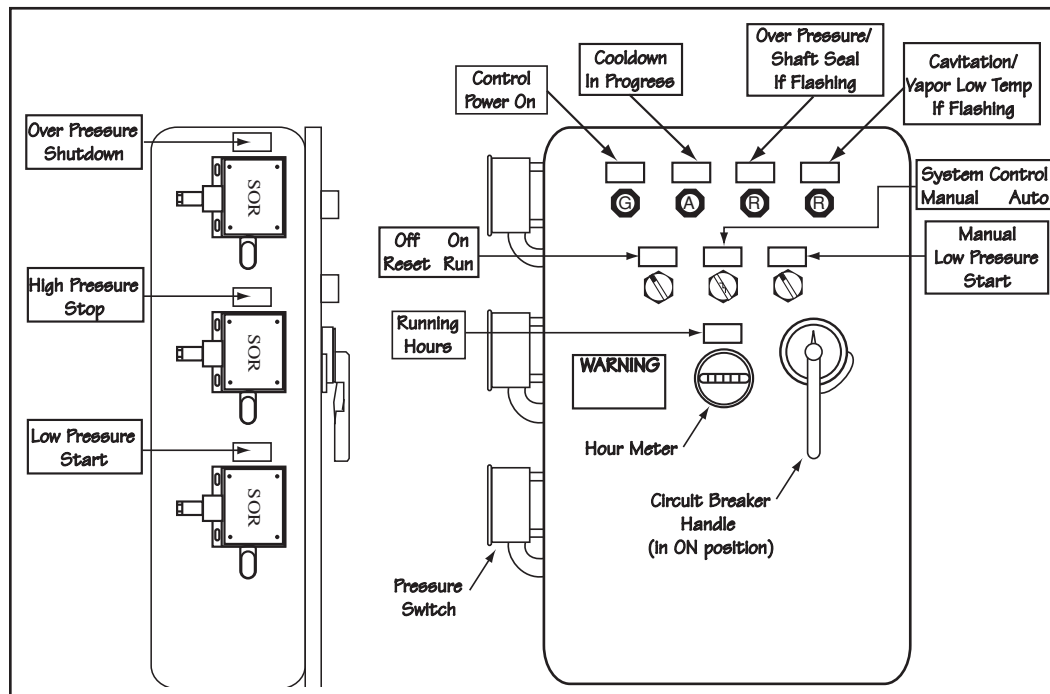

Figure 4-4. LOX Pump Control Panel.
Refer to Figure 4-1, 4-2, and 4-3 for vessel flow diagrams and valve nomenclatures. This information is also located in the manufacturer's service manual #10960582 and is affixed to the tank. Figures 4-4 and 4-5 illustrate the LOX pump control panel located on the oxygen supply system pad and the Oxygen System Master Control Panel inside Building 4623, respectively.
4.1.1.2. At the LOX pump control panel (Figure 4-4):